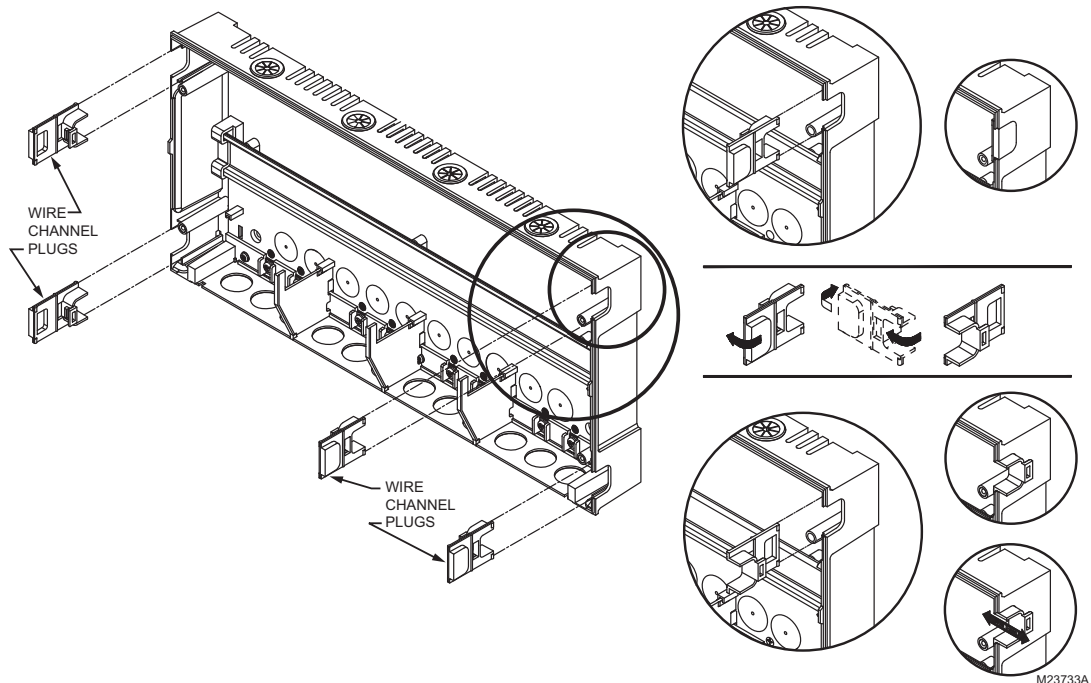

Fig. 3 Orientation of Wire Channel Plugs for Creating pass-through wire channel and for Joining Control Panel to Expansion Zoning Panels
3. Remove wire channel plugs from the AQ250 Control Panel and any Expansion Panels (see Figure 3).
5. Reverse wire channel plugs and re-insert them into their slot to form a wiring channel between the Control Panel and the Expansion Zoning Panel (see Figure 3) and to connect the two panels together.